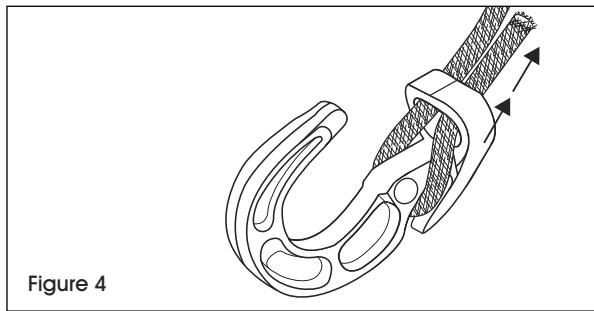

Figure 4
4. Insert cord back through hole at bottom of hook and adjust length as necessary. Tighten both ends until cord is taut. (See Figure 4)